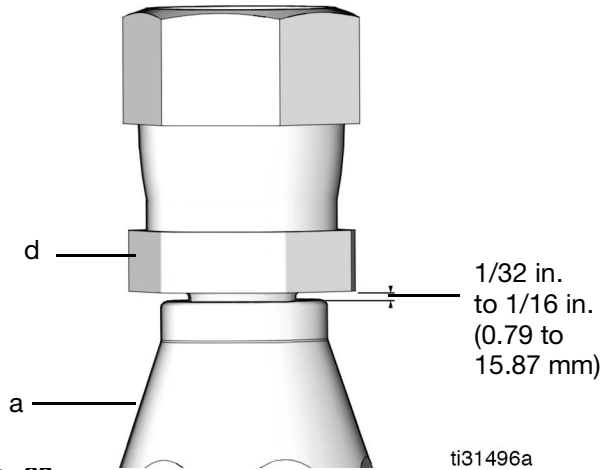

FIG. 63
8. Leave 1/32 to 1/16 inch (0.79 to 15.87 mm) clearance between socket (a) and hex (d) (FIG. 63).